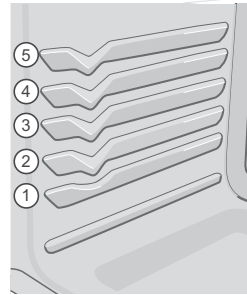

Figure 11: Rack positions
- For best results when baking cakes using two oven racks, place racks in positions 2 and 4 (See Figure 11).